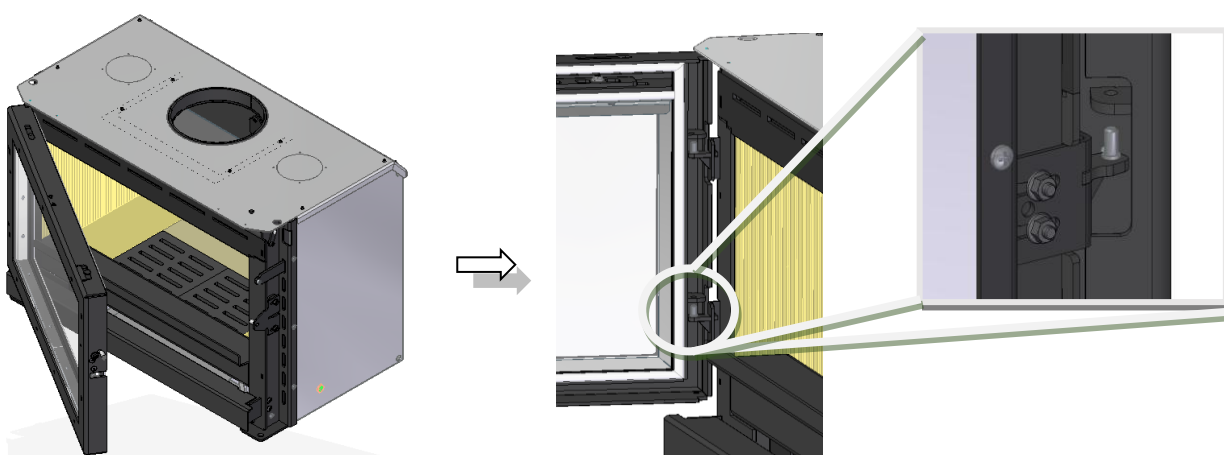
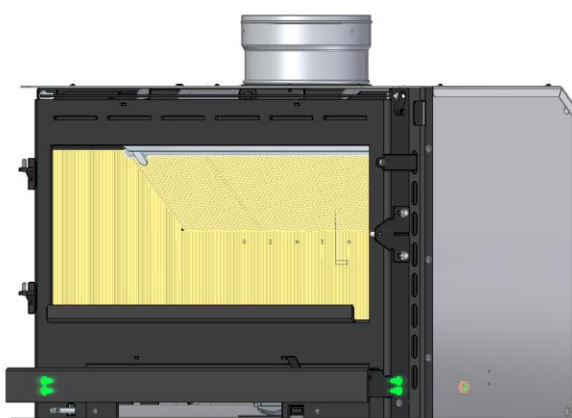

Figure 11 - Disengaging the door from the supports
Figure 12 - Removing the lower flap
9. You should note that when you put the equipment in place you should remove the door by lifting it upwards in order to remove the door from the supports, Figure 11. If your equipment is a door made of sheet metal, it is advisable to also remove the lower panel by loosening the side screws as shown in Figure 12. If it is a glass door unit there is no lower panel.